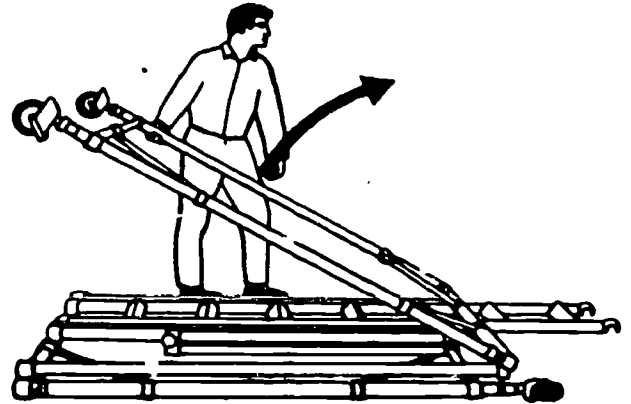

Figure 54. Swing the End Frame 270°
This type of scaffold is erected by taking the following steps: (1) place the adjustable section on the ground with the stairway treads facing up. Swing the top end frame over through 270° until you can snap the hooks at the bottom of the stairway over the lower crossbar, as shown in figures 54 and 55, (2) lift the opposite end until the end frame is vertical and the folding V-braces are locked. Figure 57 shows how the spring-actuated latches look when they are unlocked and when they are locked. Do not use the scaffold if any of these latches are not operating properly, (4) level the scaffold by operating the leg adjustment, as shown in figure 58. Never use a scaffold unless the leg adjustment is in perfect working order, (5) before climbing the